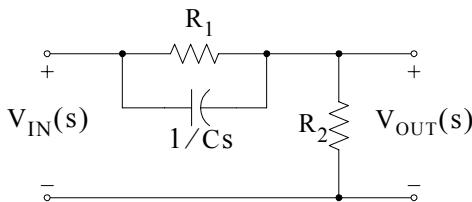

Figure 5.20. The s-domain equivalent circuit of Figure 5.19
1. The s-domain equivalent circuit is shown in Figure 5.20.